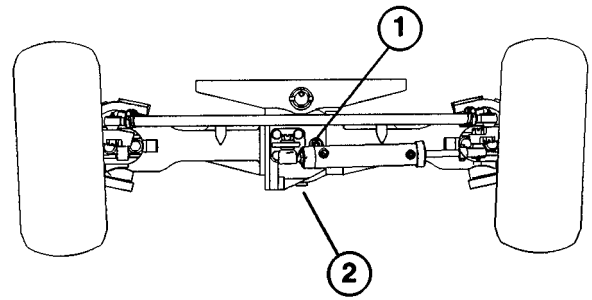

Figure 6
CHECK REAR AXLE LUBRICANT (Fig. 6)
2. Remove the check plug from the axle and make sure lubricant is up to the bottom of the check hole. If the level is low, add enough lubricant to bring the level up to the bottom of the check hole (Fig. 6).